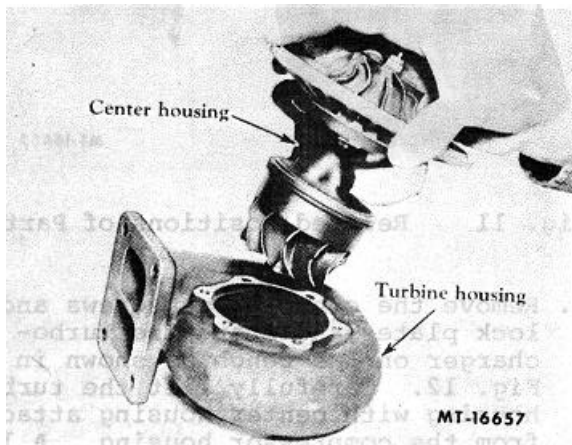

Fig. 13 Removing Center Housing From Turbine Housing
5. Straighten tabs on the lock plates and remove capscrews, lock plates and clamps securing the center housing to the turbine housing. Carefully lift the center housing assembly from the turbine housing (Fig. 13). A light tapping with a rubber mallet on turbine housing mounting flange may be necessary as lifting pressure is applied.